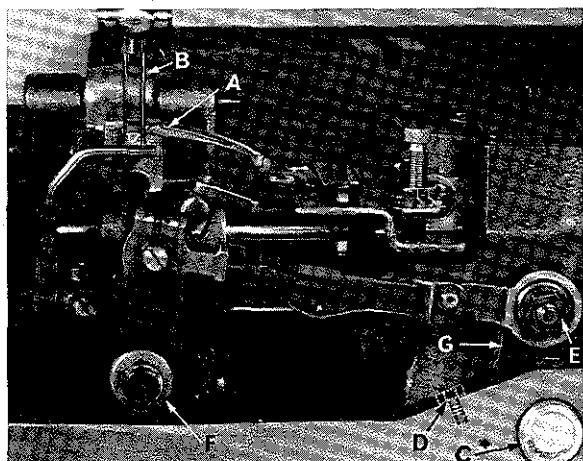
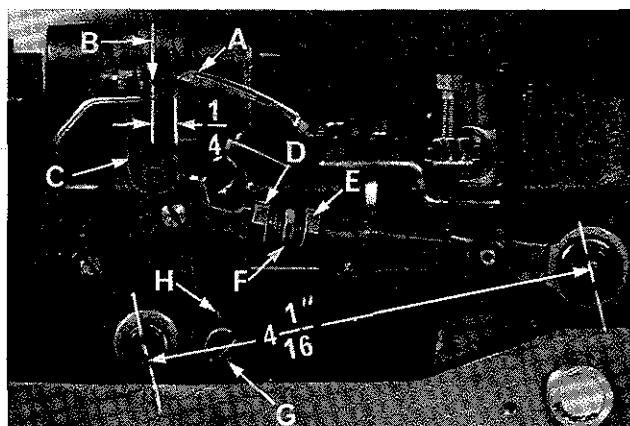

Fig. 5
Fig. 6
Insert the looper in the looper rocker and turn handwheel in operating direction until the point of the looper (A, Fig. 5), moving to the left is even with the left side of right needle (B). Note the height of the eye of the needle with respect to the looper point, then turn handwheel in the reverse direction until the looper point again moves to the left, and is even with the left side of the right needle. If the motions synchronize, the height of the eye of the needle with respect to the looper point will be the same. A variation of .005 inch is allowable. If the distance from the eye of the needle to the point of the looper is greatest when the pulley is turned in the operating direction, move the looper drive shaft synchronizing stud (C) to the rear. Moving it in the opposite direction acts the reverse.
Moving of the looper drive lever shaft synchronizing stud is accomplished as follows: Loosen the clamp screw (D, Fig. 5) of the looper drive lever. To move stud to rear (away from operator), a light tap with a small hammer directly on the stud, is all that is required. To move stud forward (toward operator), remove the cloth plate, throat plate support, oil reservoir top cover and oil reservoir back cover, then, a light tap on the looper drive lever rocker shaft, toward the operator, is all that is required. Then, using the looper drive lever to take up the end play between the looper drive lever rocker shaft and its synchronizing stud, tighten the looper drive lever on the shaft, using screw (D, Fig. 5).
With the looper at the extreme right end of its travel, check the location of the center line of the right looper connecting rod bearing, using gauge No. 21227 CX. Remove nut (E, Fig. 5) and place hole in gauge over threaded stud. The left end of the gauge should locate against the right side of the looper rocker cone (F). If adjustment is necessary, loosen the clamp screw (D) and reposition the looper drive lever (G) as required. Tighten clamp screw. If gauge is not available setting can be checked with a scale. The distance between the center line of the looper rocker cone and the center line of the looper lever stud should be $4 \frac{1}{16}$ inch (Fig. 6).
Insert a new needle in the right needle seat, type and size as specified. If the looper gauge is $\frac{1}{4}$ inch, for example, set the looper (A, Fig. 6) so the distance from the center of the right needle (B) to the point of the looper is $\frac{1}{4}$ inch, when the looper is at its farthest position to the right. Looper gauge No. 21225- $\frac{1}{4}$ (C) can be used advantageously in making this adjustment. Refer to chart on the following page for needle Type, looper gauge setting and looper gauge number for the various styles of machines. If adjustment is required, loosen nut (D) (it has a left hand thread) and nut (E) on connecting rod (F), turn the connecting rod forward or backward to obtain the $\frac{1}{4}$ inch dimension. Retighten both nuts, first nut (E). Then nut (D). Make sure the left ball joint is in vertical
If adjustment is necessary, loosen lock screw (G, Fig. 6) and turn stop screw (H) as required. Turning stop screw clockwise sets the looper to the rear and turning it counterclockwise acts the reverse. Holding looper to the front while making this adjustment may prove helpful. Tighten lock screw when setting is obtained and recheck the adjustment. Now insert another needle in the left needle seat.